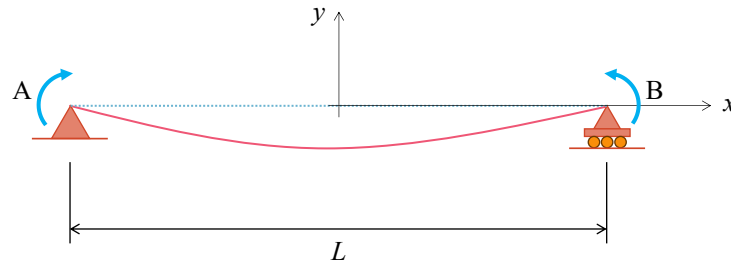

Figure 3. Pure bending scenario of a *uniform beam*. Positive bending moment effect is shown.
- e. From Figure 3, the beam does not displace at either end. We also note the displaced shape is *symmetric*. Use these constraints to solve for C_1 and C_2 . Then, proceed to determine an exact expression for the maximum vertical deflection, Δ_{\max} , this beam experiences. When determining C_2 , recall we are applying a *positive* bending moment to the beam. Express all of your final answers in terms of the variables ϕ_0 and L .